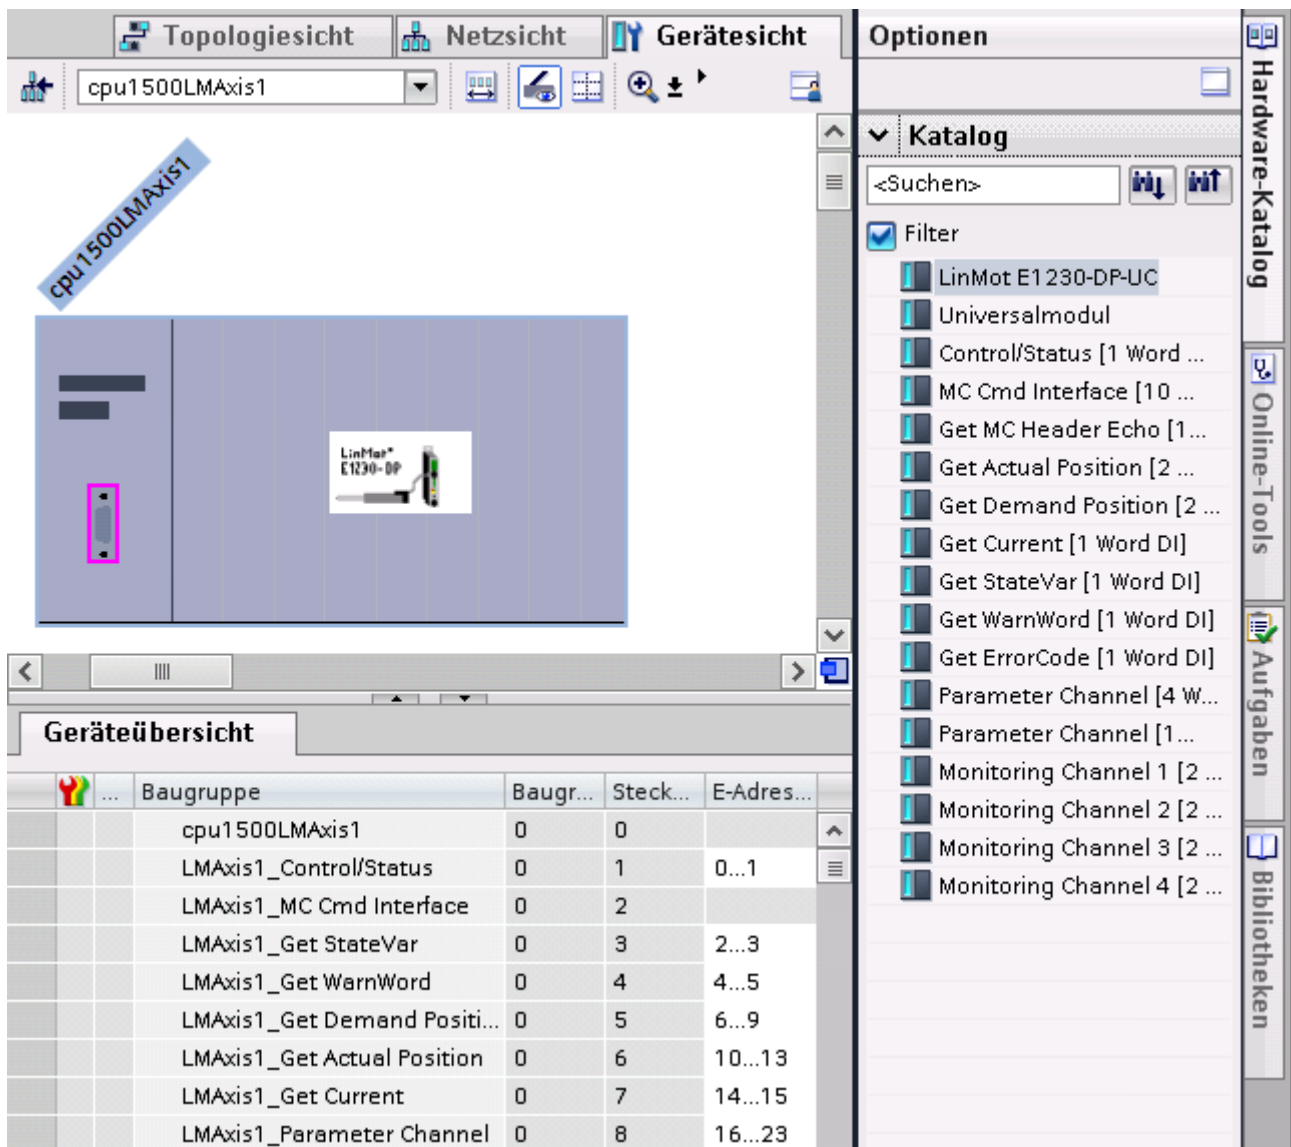

Figure 2: TIA Portal device view, Insert modules
- Afterwards insert the required modules into the available slots as shown in Figure 2 (Slots 1 – 8), and assign a name (e.g. LMAxis1\_...).